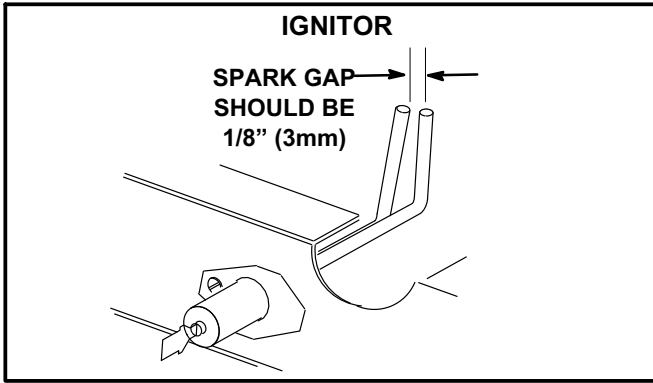

FIGURE 42
- 4- Locate the ignitor under the left burners. Check ignitor spark gap with appropriately sized twist drills or feeler gauges. See figure 42.